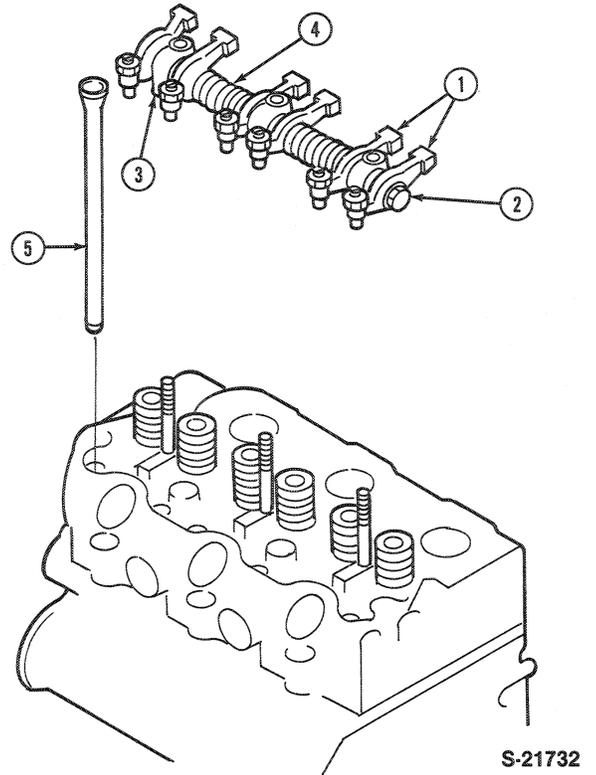

Figure 11
15. Remove the rocker arm assembly and push rods, Figure 11.